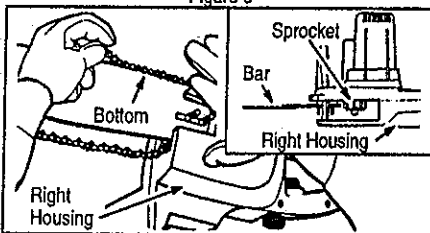

Figure 9
- Slide the chain between the right housing and the sprocket. Figure 9 (inset). Place chain around the sprocket and fit the drive links into the guide bar grooves — first the bottom groove and then the top groove, and then around guide bar nose. Figure 9.
- Heavy enough to carry the current from the power source the full length of the extension cord to the unit. Otherwise, loss of power and overheating can occur causing damage to the unit. Refer to Figure 9 for minimum wire gauge recommendations. The cord must be marked with the proper wire gauge.